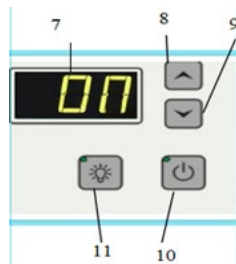

Fig. 9-1
- Under the normal operating status, press and hold the  Key (10) to enter the heater countdown timer setting mode (Display 7 shows either 'ON' or 'OFF'); click Key (8) or (9) to turn on or off the countdown timer (Fig. 9-1 and 9-2), respectively;